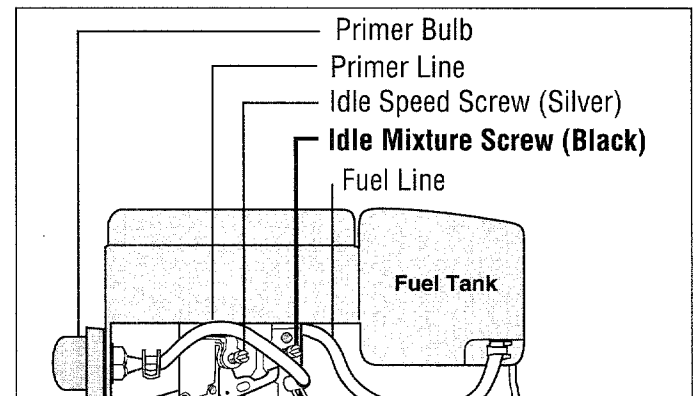

Figure 17A: Idle Mixture Screw can be adjusted.
- Locate the carburetor idle mixture screw (see Figure 17A). It is directly under the air filter and is black. **Do Not Adjust The Silver-Colored Screw.**